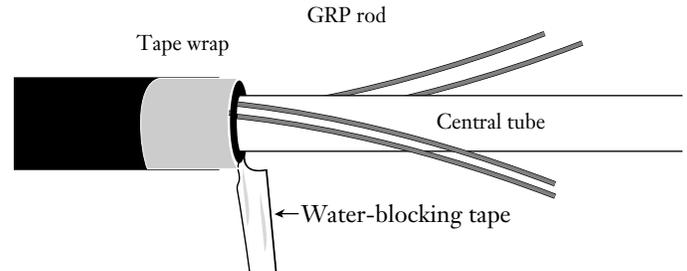

Figure 9
4.10 Separate the water blocking tape from the cable core (Figure 9). Use scissors to cut the water-blocking tape flush with the end of the cable sheath.